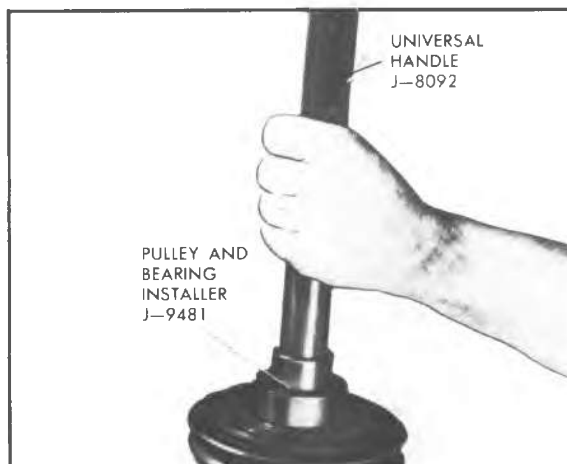

Fig. 12--Installing Pulley and Bearing Assembly
3. Press or tap pulley and bearing assembly on neck of compressor until it seats, using Pulley and Bearing Installer J-9481 with Universal Handle J-8092 (Fig. 12). The Installer will apply force to inner race of bearing and prevent damage to bearing.